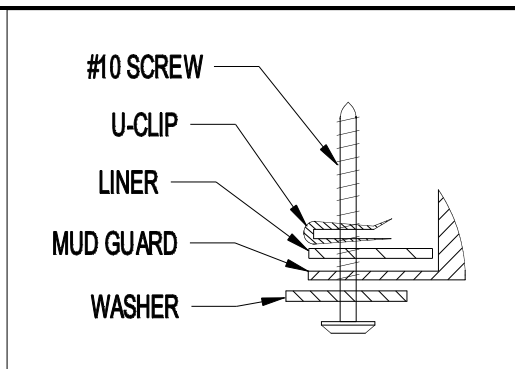

Figure 2
4. Mark, drill 1/8" holes, and install #10 screws and washers at locations A, C and D thru mud guard, fender and into a U-clip on the backside of fender and fender liner. **NOTE:** Do not install U-clips over fender lip (Figure 2).